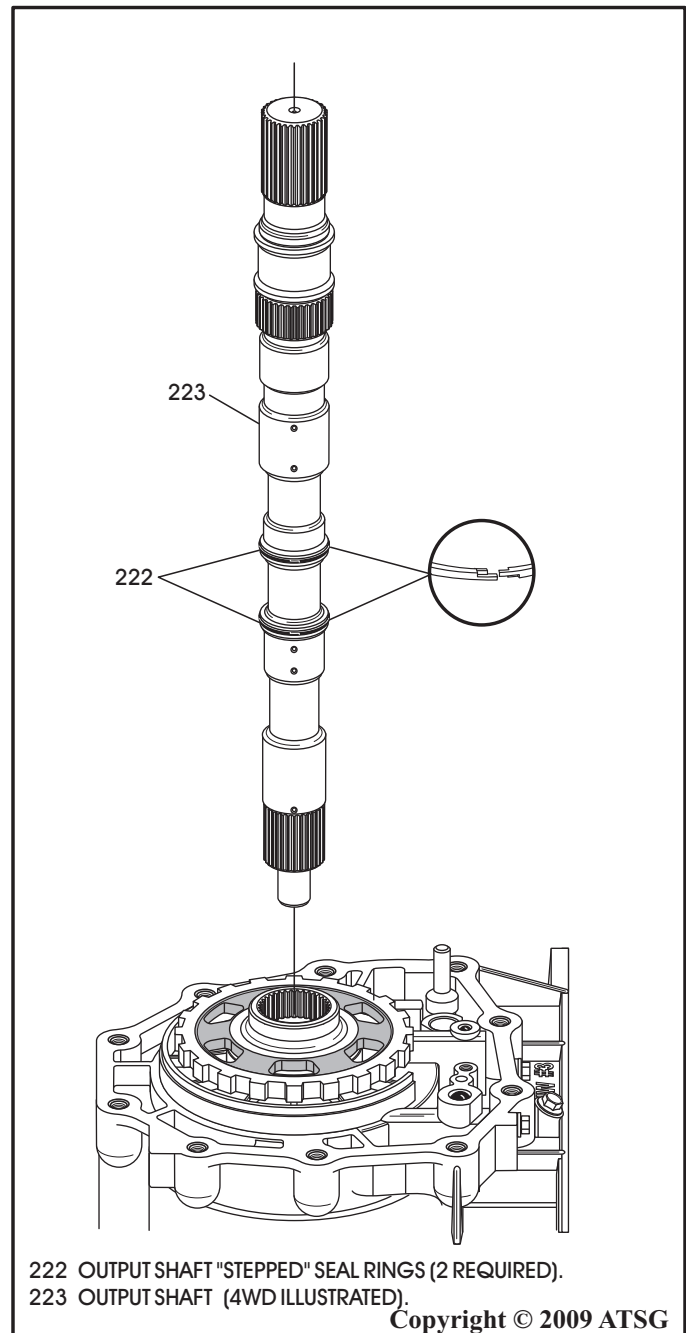

Figure 210
42. Lubricate the sealing rings on pre-assembled output shaft with the proper fluid and install the output shaft, as shown in Figure 210.